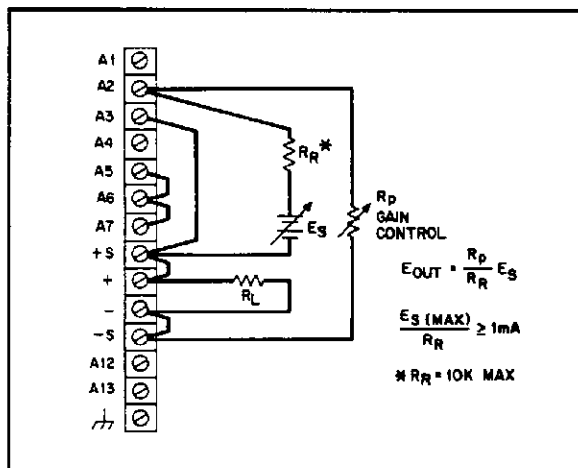

Figure 3-7. Voltage Programming of Output Voltage (Variable Gain)
**3-42 Constant Voltage Output Voltage Control (Variable Gain).** The arrangement of Figure 3-7 shows a method of programming the supply with gain using a variable voltage source ( $E_S$ ). Note that this method is no different than the circuit normally used within the supply except that an external reference source ( $E_S$ ) replaces the +6.2V internal reference and resistor  $R_X$  replaces the constant voltage pullout resistors (A1R12-R15). The voltage gain (between  $E_S$  and  $E_{OUT}$ ) is equal to the resistance ratio  $R_P/R_R$ .